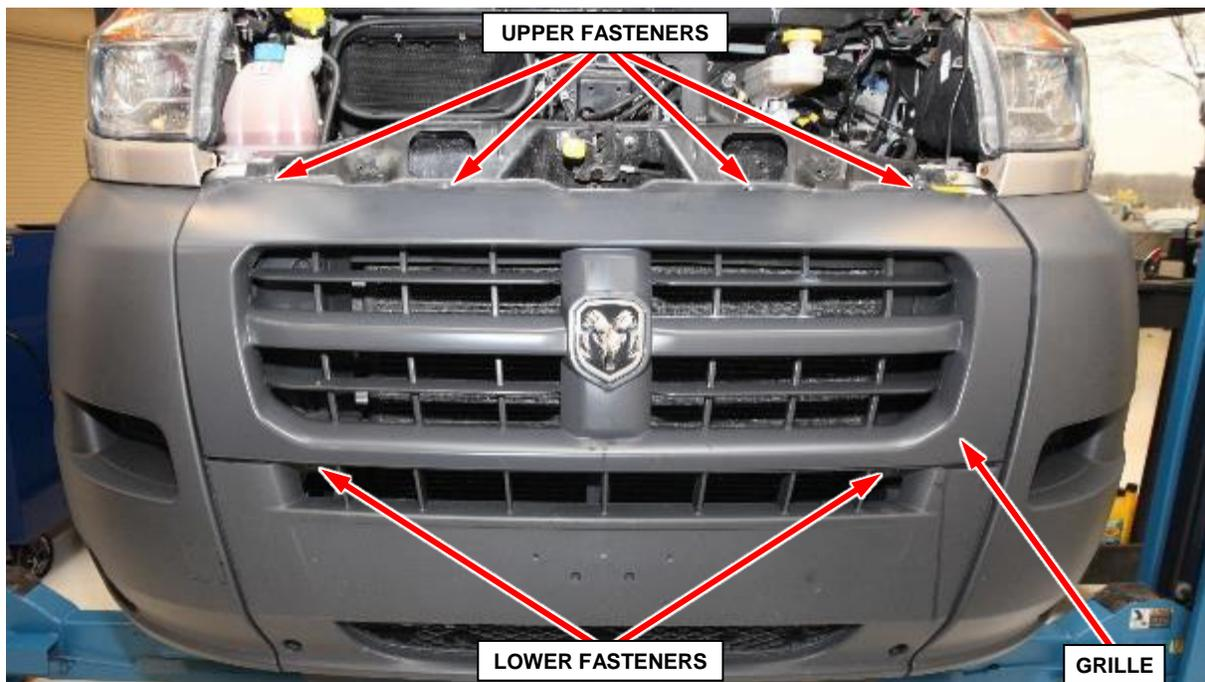

Figure 12 – Radiator Grille
2. Remove the two lower fasteners securing the radiator grille (Figure 12).
3. Remove the four upper fasteners securing the radiator grille (Figure 12).
4. Remove the radiator grille from the vehicle (Figure 12).
38. Position the radiator grille to the vehicle (Figure 12).
39. Install the four upper fasteners securing the radiator grille and tighten securely (Figure 12).
40. Install the two lower fasteners securing the radiator grille and tighten securely (Figure 12).